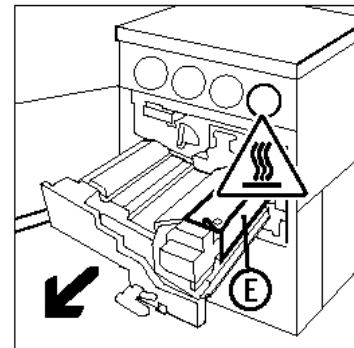

Figure 42: Pulling out the Paper Path Module
- 3 Pull the Paper Path Module out of the copier/printer until it is fully open, as illustrated in Figure 42.